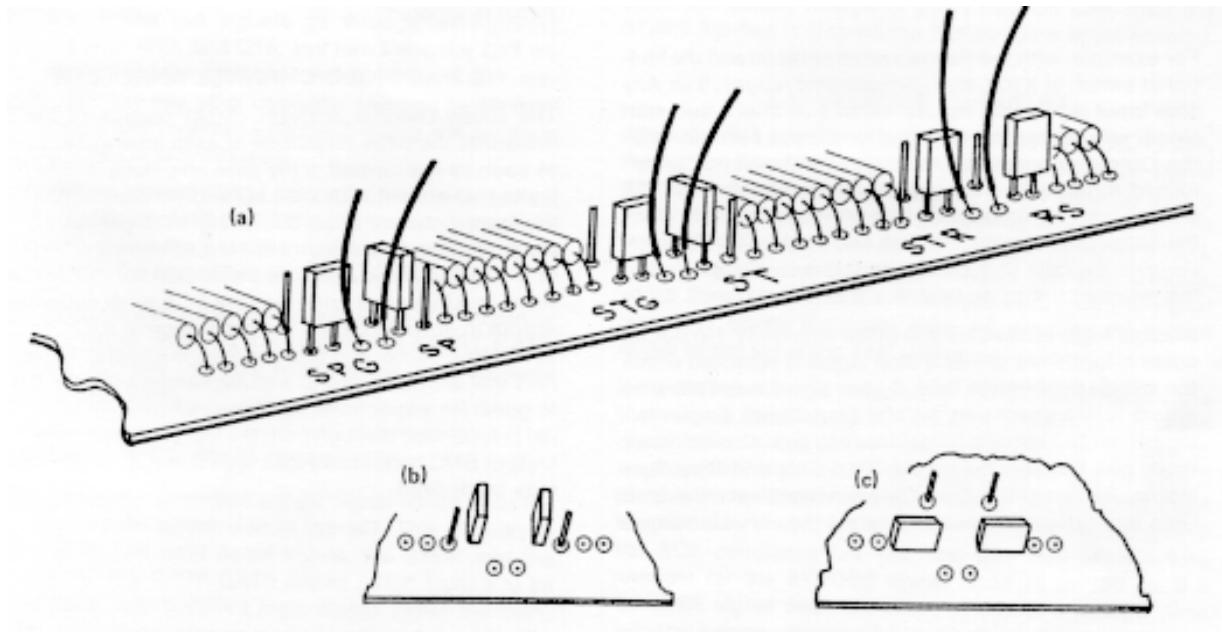

Fig. 1. Input Polarity Jumper Selection for (a) Factory-Set Input Positions, (b) Inputs Set in Negative Position, and (c) Input Set in Positive Position.
4. Refer to Fig. 1 to locate the jumper to be changed on the 567.
5. Using a pair of pliers, remove the small blue jumper selected and reconnect it as shown in Fig. 1 for either positive or negative polarity.